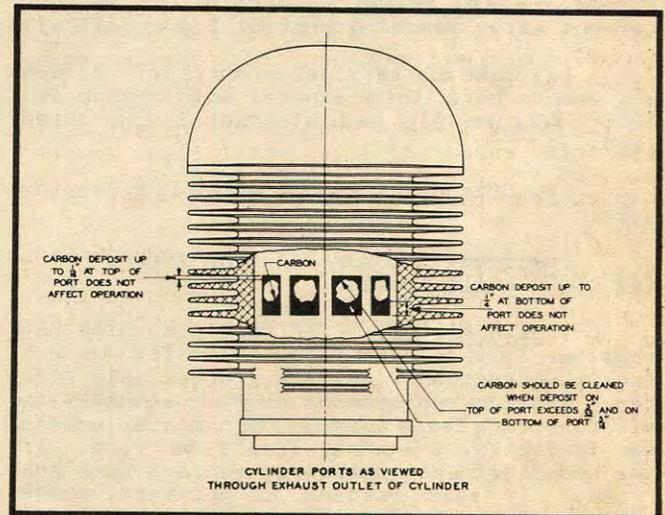
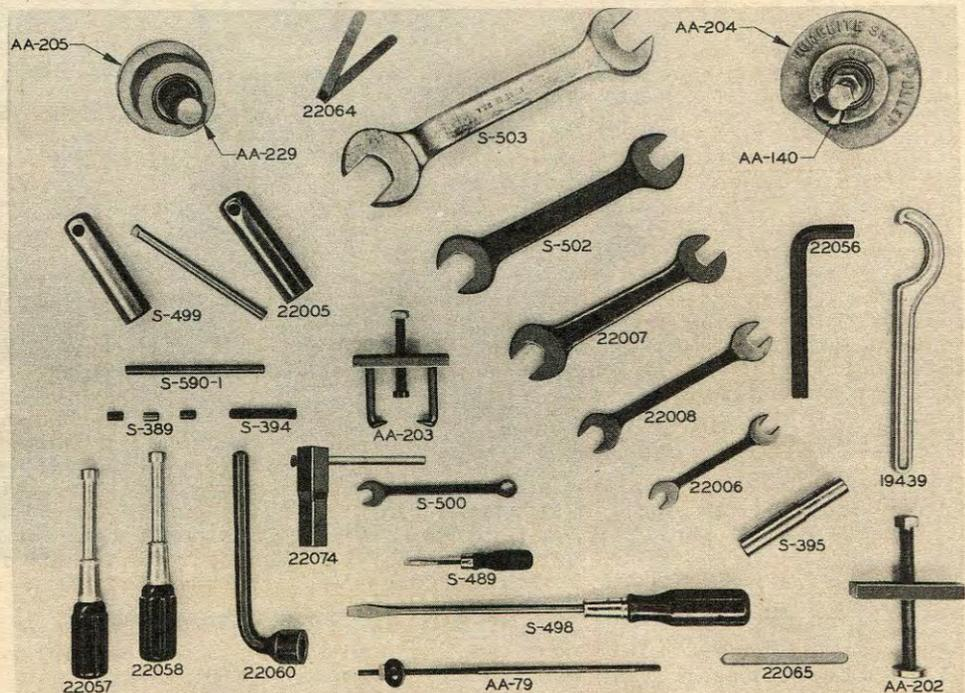

Figure 7 - Exhaust Ports
Figure 9 - Service Tools
clockwise direction until breaker arm fiber rests on highest point of cam - approximately 1/8 inch past breaking edge of cam. Check gap (correct setting .020 inch) with thickness gage, No. 22064 (figure 9).
(1) The necessity for cleaning off carbon and lead deposits from the cylinder head depends upon the average temperature in which the unit operates. In cool or cold weather deposits do not build up rapidly, and the need for cleaning is unlikely in less than 150 hours of operation. In hot weather it may be necessary to clean the deposits every 100 hours of operation. The necessity for cleaning off the lead deposit in the cylinder head will be indicated by a sharp knock or pre-ignition ping in the engine, especially under heavy loads, or if the engine runs unevenly, or if there is a loss of power. This condition sometimes occurs before clogging of the exhaust ports which materially reduces the engine power.
(2) Before removing cylinder and inspecting exhaust ports for carbon and lead deposits, first check the spark plug and baffle, ignition, carburetor, and air cleaner.
(3) To inspect exhaust ports, remove the exhaust manifold, by first taking off nut holding bracket on rear of large muffler. It is unnecessary to remove the bracket. Then disconnect the exhaust manifold nut on cylinder with spanner No. 19439 (figure 9).
(4) Carbon formation on the bottom edge of the ports does not materially affect the power of the engine until such deposits project up over $\frac{1}{4}$ inch (figure 7). If ports are carbonized over $\frac{3}{32}$ inch below the top edge, remove the cylinder for cleaning, as follows: Remove carburetor air cleaner assembly by taking out air cleaner adapter holding screw. Disconnect shielding assembly at spark plug, remove plug with wrench No. S-499 (figure 9), also remove cylinder shield. Take out 4 cylinder screws with wrench No. S-500 (figure 9). Cylinder can now be taken off.
(5) It is important that all deposits be scraped off the cylinder, piston head and exhaust ports. In cleaning exhaust ports use care not to break or burr edges as these are finely beveled.
(6) The muffler assembly does not readily become plugged up and will not ordinarily require replacement when the cylinder ports are cleaned. Checking mufflers for carbonization can best be done by installing a new assembly. For dismantling instructions see section VIII, 1.b. If power is increased with new assembly, replace both mufflers.
(a) Take off terminal cover plate (figure 3), remove nuts then exposed with wrench No. 22058 (figure 9), and disconnect the three leads.
1. The following tools comprise a full kit for complete dismantling, and assembly operations (figure 9):
NOTE: To remove Power Plant from plane, reverse installation instructions section III, 2.c. - e. and g. All tools referred to in this section are listed in section VII, and illustrated in figure 9.
(a) Shunt Winding. - Disconnect lead from fixed resistor tap (for location see figure 9). With an ohmmeter or Wheatstone Bridge connected between the lead just disconnected and frame, or yoke, resistance should read approximately 7-1/2 ohms for the four coils. If correct reading is not obtained, check coils individually. With the shunt leads (the lighter two of the four wires) disconnected, place an ohmmeter between them. Reading should be approximately 1.9 ohms. Then check one shunt lead to frame. Infinite resistance should be obtained. Replace coils with new ones if above readings are not obtained.